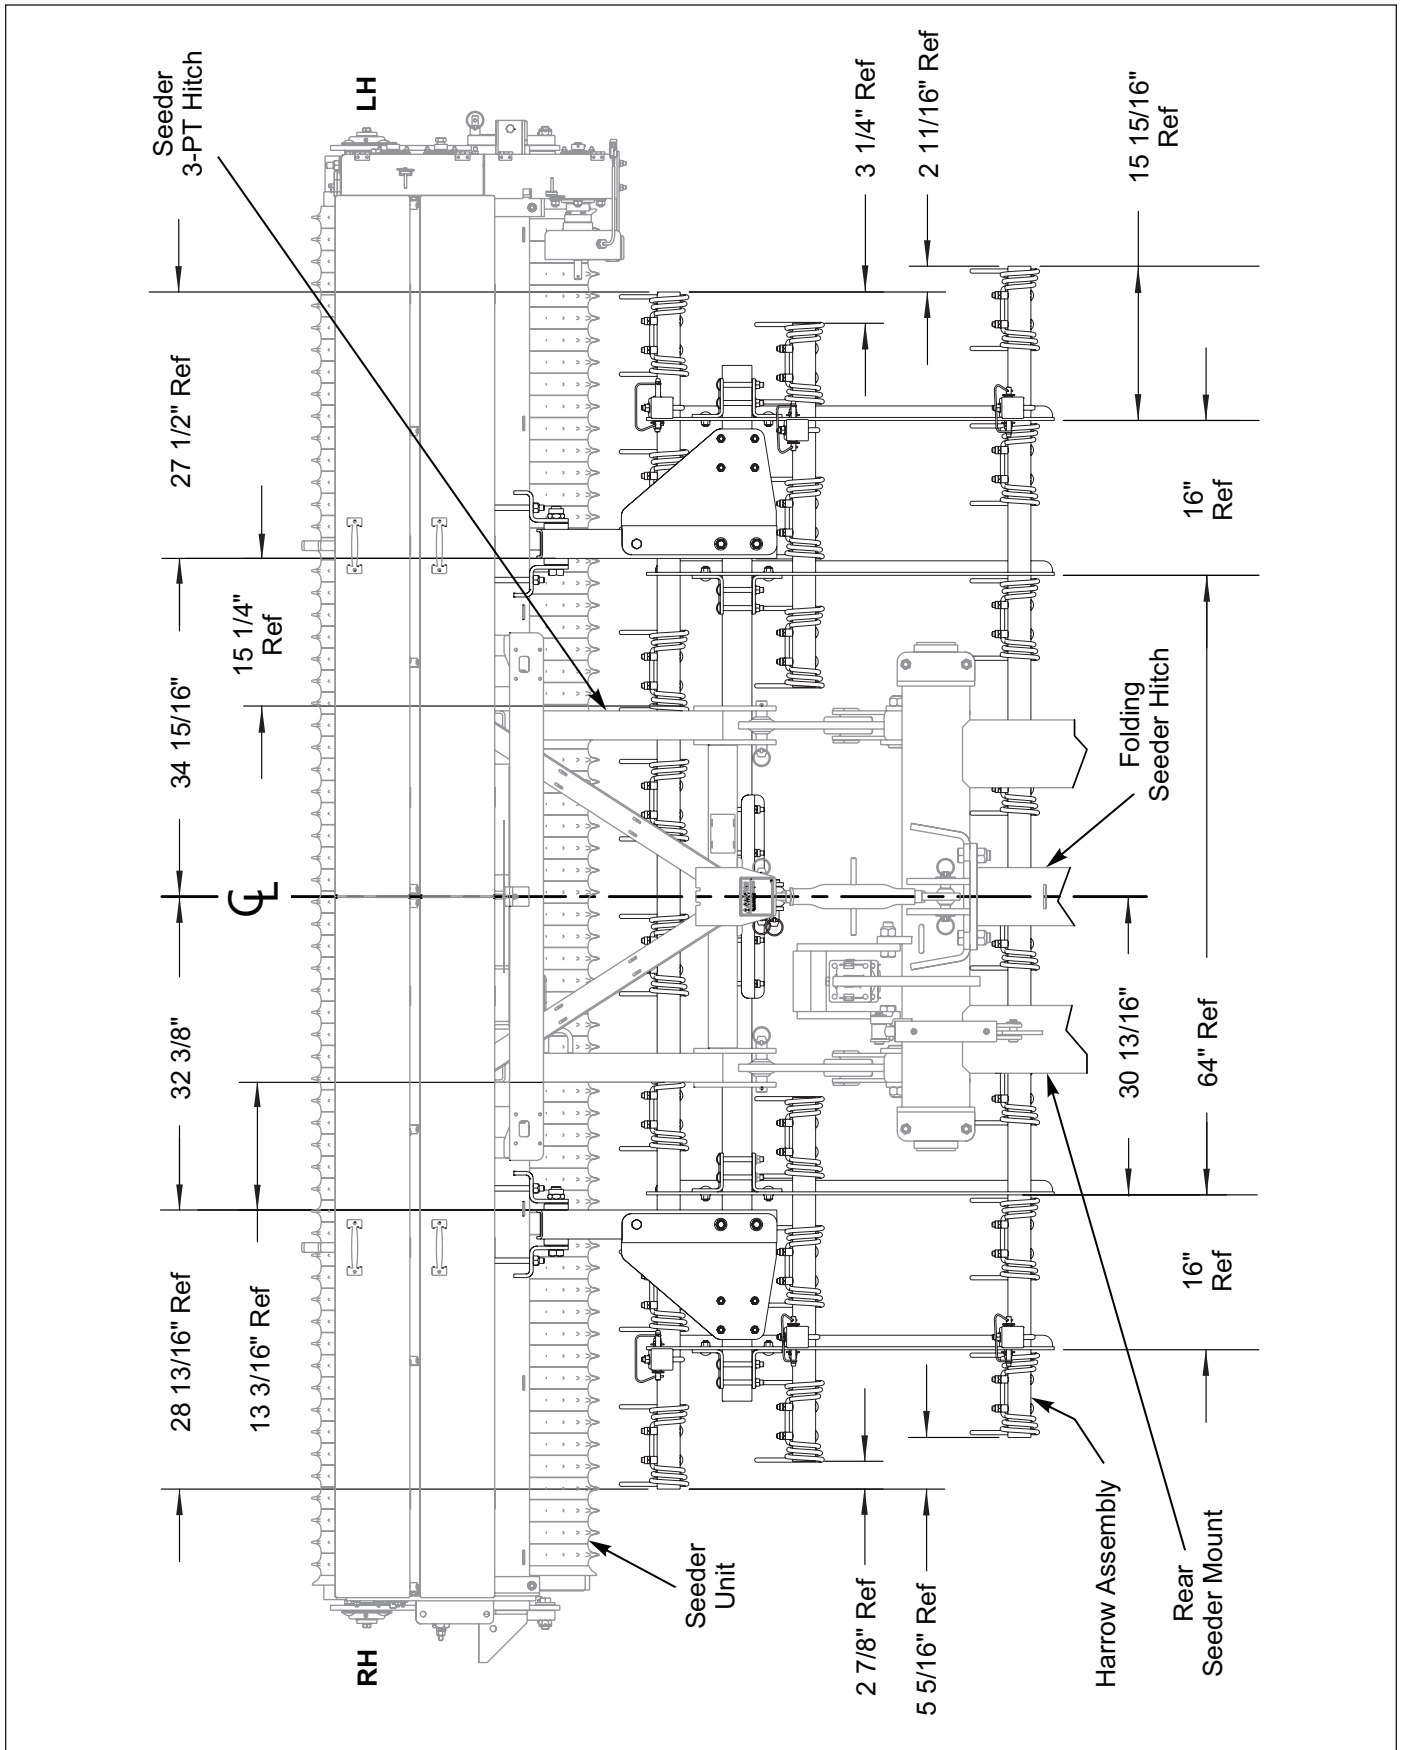

Figure 2-27: Center Harrow Installation Dimensions
2. Position Harrow Assembly in front of the Center Seeder Unit. **See Figure 2-27.**